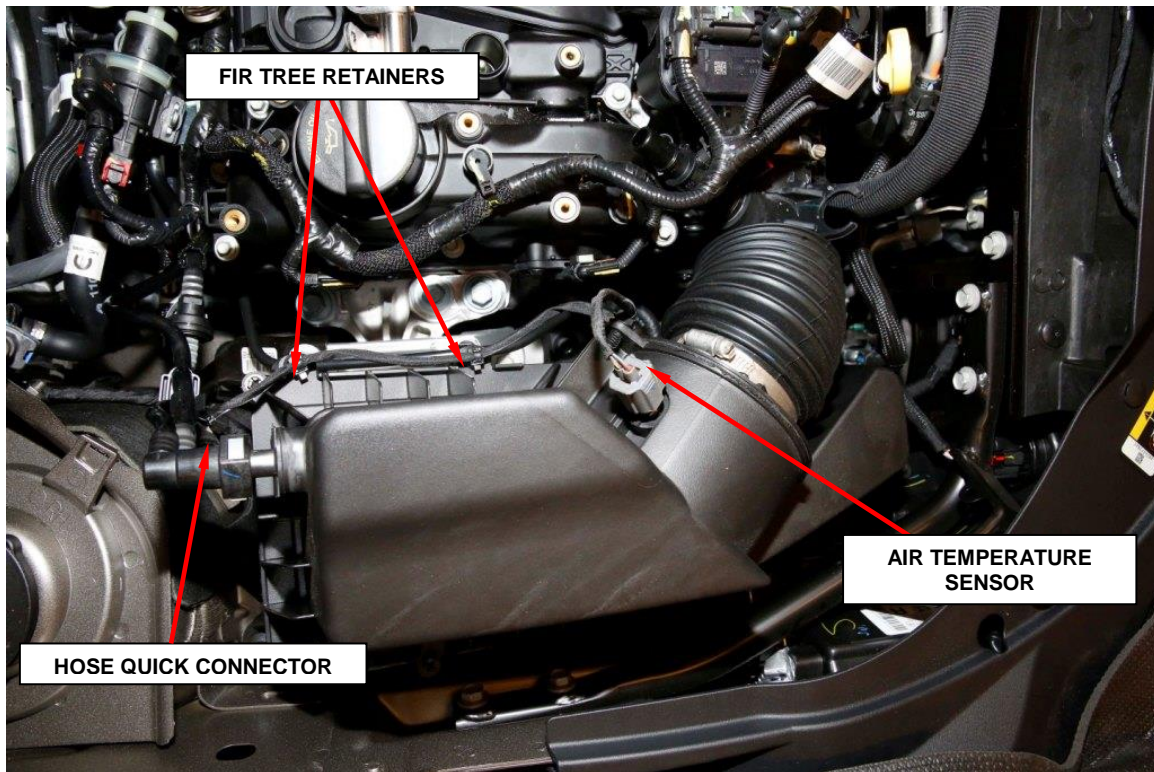

Figure 10 – Air Filter Housing
29. Disconnect the electrical connector from the air temperature sensor (Figure 10).
30. Disconnect the air filter housing quick connects (Figure 10).
31. Disconnect the fir tree retainers from the air filter housing (Figure 10).
33. Grasp the air filter housing and pull moderately in the upward position to remove (Figure 10).